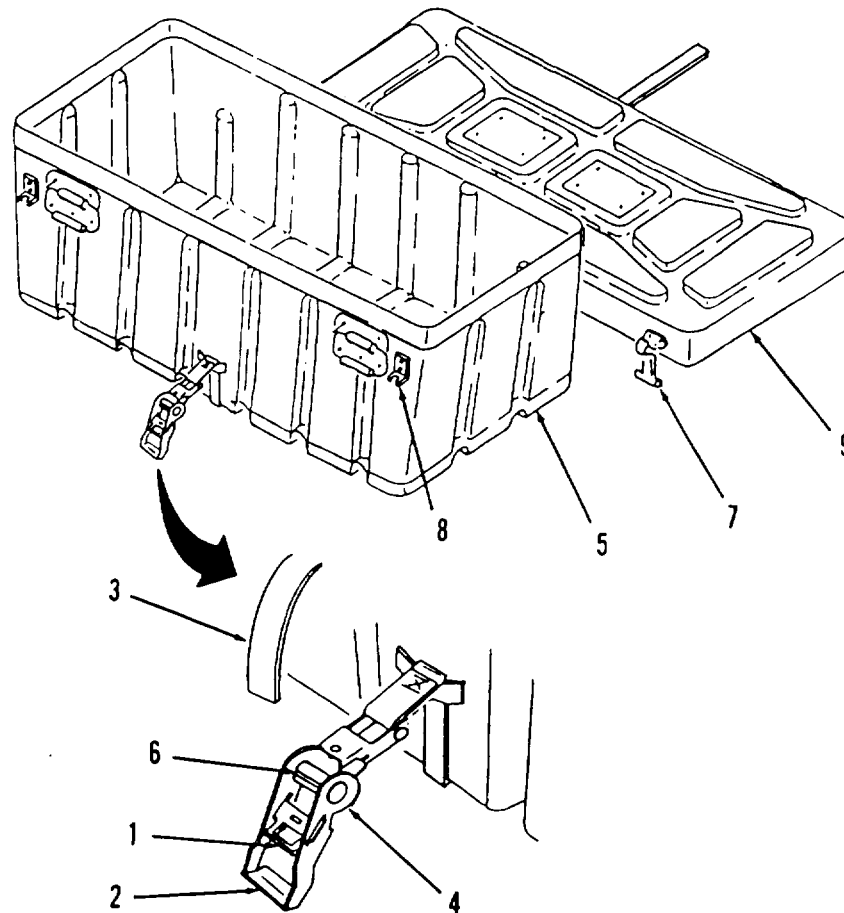

Figure 2-3. Opening Storage Chests.
2.5 ASSEMBLY AND PREPARATION FOR USE. This paragraph shows how to assemble the pumping assembly and prepare it for use. The steps provided and the illustrations shown are for a typical pump set up. Always be sure that you follow your local standard operating procedures (SOP) first if there is a conflict between the steps shown here and your SOP. (Refer to Figure 2-3.)
a. Opening Storage Chests. (Refer to Figure 2-3.)
- (1) Carefully squeeze ratchet release (1) and end of strap ratchet handle (2) together until tension on strap (3) is released.
- (2) Rotate strap ratchet handle (2) upward to fully release ratchet assembly (4) locking device.
- (3) While keeping strap ratchet handle (2) in the upward position, pull entire ratchet assembly (4) away from storage chest (5) to totally disengage strap (3) from slot (6) of ratchet assembly.
- (4) Remove strap (3) from top of storage chest (5).
- (5) Release four rubber latch handles (7) from catches (8) and remove storage chest lid (9) from storage chest (5).